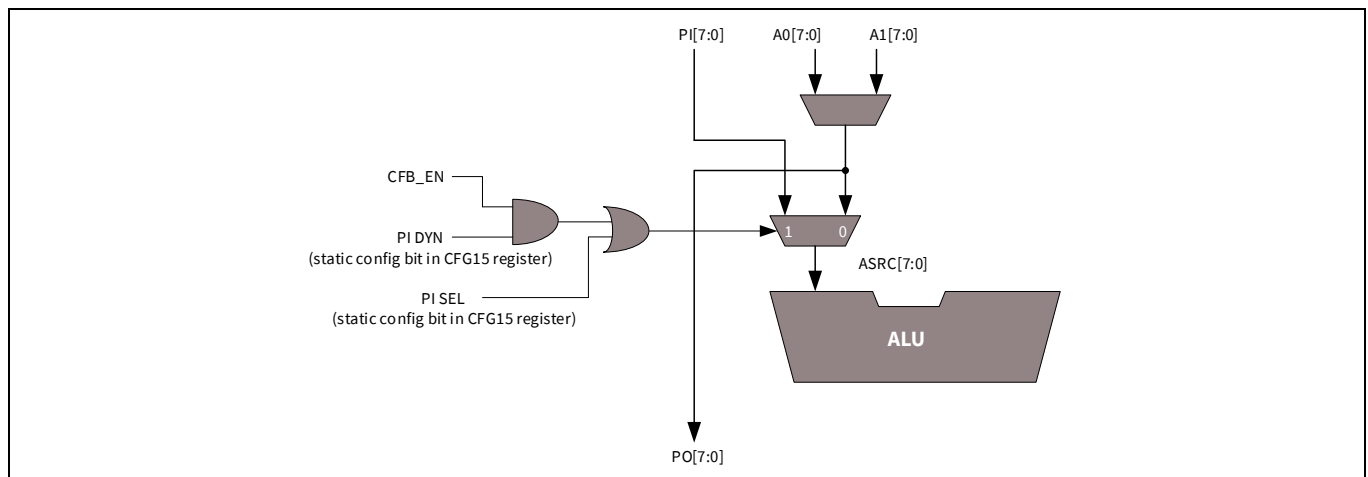

Figure 34-25. Datapath parallel in/out
As shown in Figure 34-25, the datapath Parallel In (PI) and Parallel Out (PO) signals give limited capability to bring routed data directly into and out of the datapath. Parallel Out signals are always available for routing as the ALU asrc selection between A0 and A1.